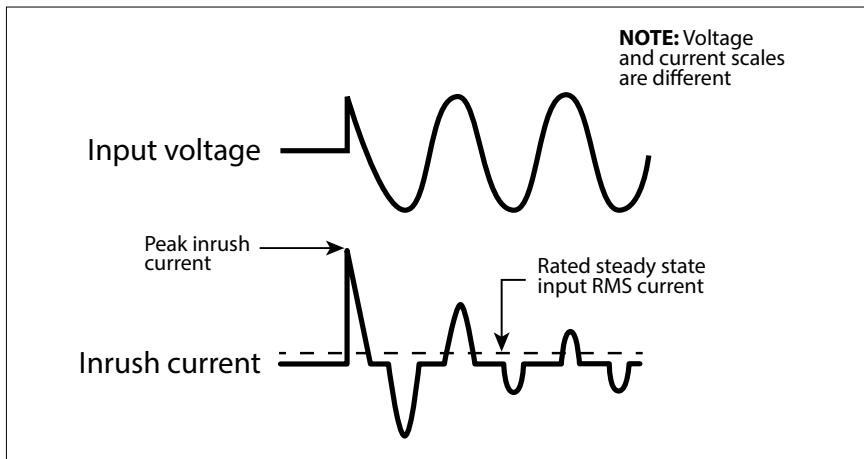

Fig 4.1: Inrush current in an SMPS
- **AC to DC Switched Mode Power Supplies (SMPS):** This type of power supply is used as stand-alone power supply or as front end in all electronic devices powered from Utility / Grid e.g. in audio/video/ computing devices and battery chargers (Please see Section 4 for more details on SMPS). When this power supply is switched ON, its internal input side capacitors start charging resulting in very high surge of Inrush Current for a few millisecs (Please see Fig 4.1). This surge of inrush current / power may reach up to 15 times the Continuous Maximum Running Power Rating. The surge of inrush current / power will, however, be limited by the Surge Power Rating of the AC source.
Switch Mode Power Supplies (SMPS) are extensively used to convert the incoming AC power into various voltages like 3.3V, 5V, 12V, 24V etc. that are used to power various devices and circuits used in electronic equipment like battery chargers, computers, audio and video devices, radios etc. SMPS use large capacitors in their input section for filtration. When the power supply is first turned on, there is a very large inrush current drawn by the power supply as the input capacitors are charged (The capacitors act almost like a short circuit at the instant the power is turned on). The inrush current at turn-on is several to tens of times larger than the rated RMS input current and lasts for a few milliseconds. An example of the input voltage versus input current waveforms is given in Fig. 4.1. It will be seen that the initial input current pulse just after turn-on is > 15 times larger than the steady state RMS current. The inrush dissipates in around 2 or 3 cycles i.e. in around 40 to 60 milliseconds for 50 Hz sine wave.